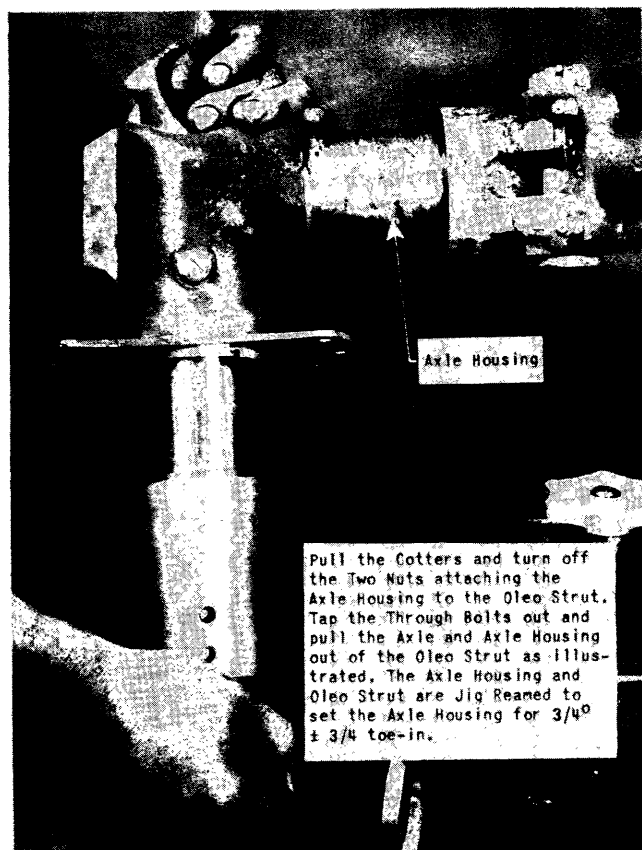

Figure 159 - Removing Axle Housing from Oleo Strut
(8) Reverse the oleo strut cylinder in the wooden block clamp and pull the cotters, remove the nuts and pull the two bolts which attach the oleo piston to the axle housing. (See figure 159.) When the axle housing and oleo strut are assembled these two parts are fitted together with no clearance and jig reamed to set the axle housing for  $+3/4$  degrees  $-3/4$  degrees toe-in. Therefore, it is essential that the same axle housing and oleo strut be always reassembled together. If it is necessary to install a new axle housing the two assemblies should be lined up and jig reamed to coincide with the original assembly.